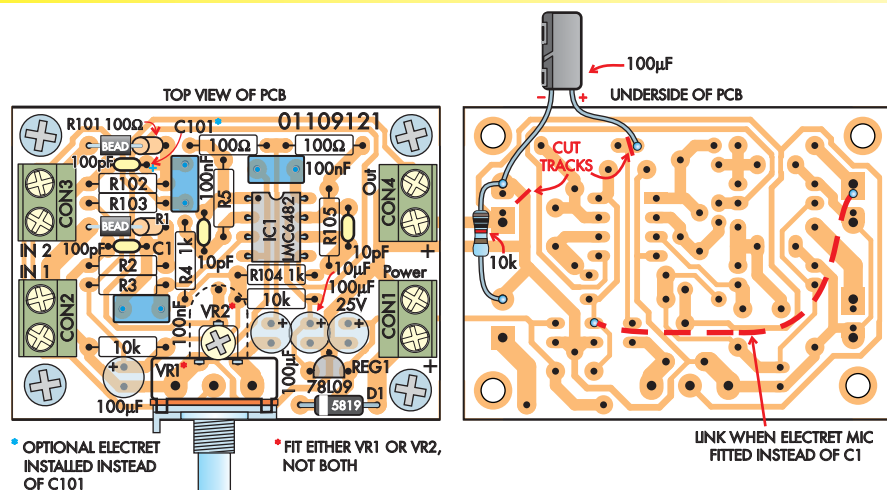

Fig.2: follow this layout diagram to assemble the PCB. It's best to cut the tracks first and then check with a continuity meter before fitting the parts.
The *RF Probe* is built on a PCB, available from the *EPE PCB Service*, coded 04106152 (45 × 11mm) – see Fig.2. Install the two 100k $\Omega$  resistors and the two capacitors first, followed by the diode. Check that the diode is correctly oriented (ie, banded end towards the right).
**Fig.2:** the parts layout on the small PCB. Make sure the 100pF capacitor is rated at 1kV and take care with the orientation of Schottky diode D1. The photo at right shows the completed PCB before the heatshrink sleeve was fitted.
Since there are changes to the component layout, this means that you will have to follow the parts layout of Fig.2 and ignore most of the resistor values shown on the screen-printed layout on the PCB itself. You also need to cut the copper tracks of the PCB in two places, as shown on Fig.2.
and connect the end adjacent to CON3 to the output of the 3-terminal regulator. We show this with a dotted red line on Fig. 2. In addition, R102 and C101 are omitted.
**Make sure that the electret mic is correctly oriented. Its positive terminal must go to the side marked with a blue '+' sign on Fig. 2. Connect the electret via shielded cable if you want to mount it off the PCB.**
When you have carefully checked your assembly and soldering against the circuit of Fig. 1, Table 1 and the overlay diagram of Fig. 2, you are ready to apply power. Check that the output